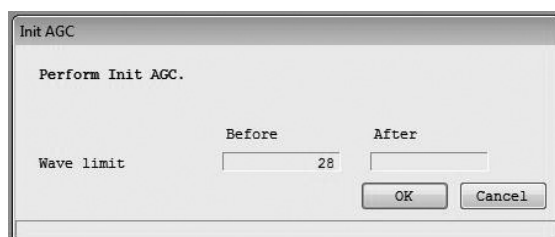

Fig. 3-64
- (1) Click "Diag/Service (T)" from the menu, and then click on "Init AGC" from the down-list of "Calibration".
- (2) The following window (Fig. 3-64) will be displayed. Stop the fluid completely, and then click "OK" button.
- (6) By clicking "OK" button, the window will return to the window shown in Fig. 3-64. Click "Cancel" button to exit "Init AGC".